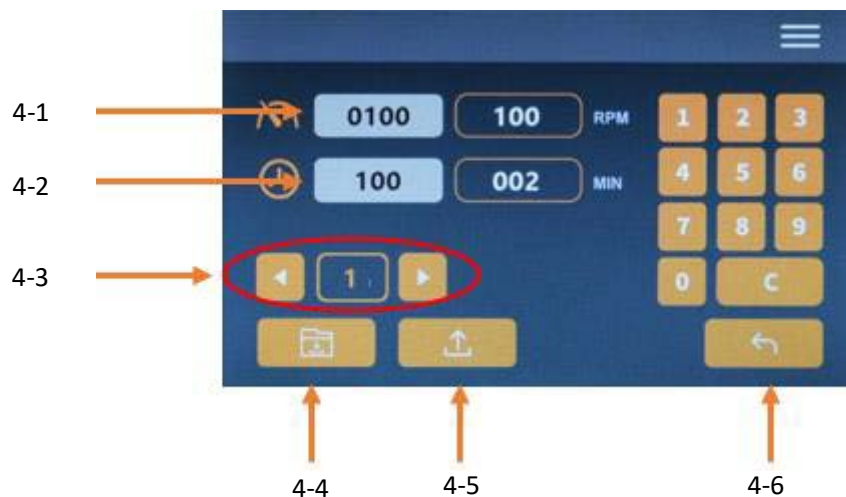

Fig. 7.3.4
1) Click  key on home page to enter into screen 4 (Fig. 7.3.4)
2) Click  key on home page into Fig.7.3.1, press  enter into screen 4 (Fig.7.3.4)
▷On Fig.7.3.4 press program area (4-3) arrow  or  to choose needed program no.;
▷On Fig.7.3.4 click speed area (4-1), time area (4-2), through digital keyboard to enter needed speed/time value.
▷On Fig.7.3.4 press program area (4-3) arrow  or  to choose the needed program No.;